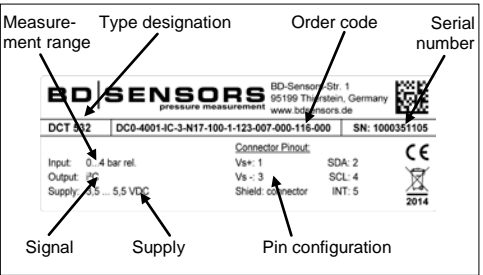

Fig. 1 Type plate
- Make sure that a special version of your device has been ordered for use with oxygen and that the expected device has been delivered. The easiest way for you to verify this is by checking the type plate (see Fig. 1 regarding this). If your order code ends with the digits "007", then your device is suitable for oxygen applications.